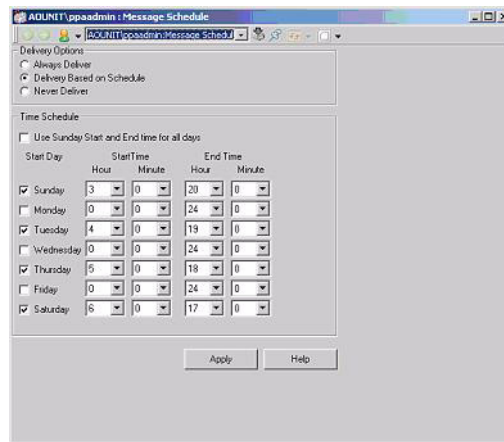

Figure 107. Message Schedule (Delivery Based on Schedule)
- b. Do not select the **Use Sunday Start and End time for all days** check box. If the time range is not the same for every day of the week for which the schedule is active, use the down arrows in the Start Time Hour, Start Time Minute, End Time Hour, and End Time Minute fields *in the applicable rows* to define the time range for each day. Click **Apply**. Figure 107 shows an example.